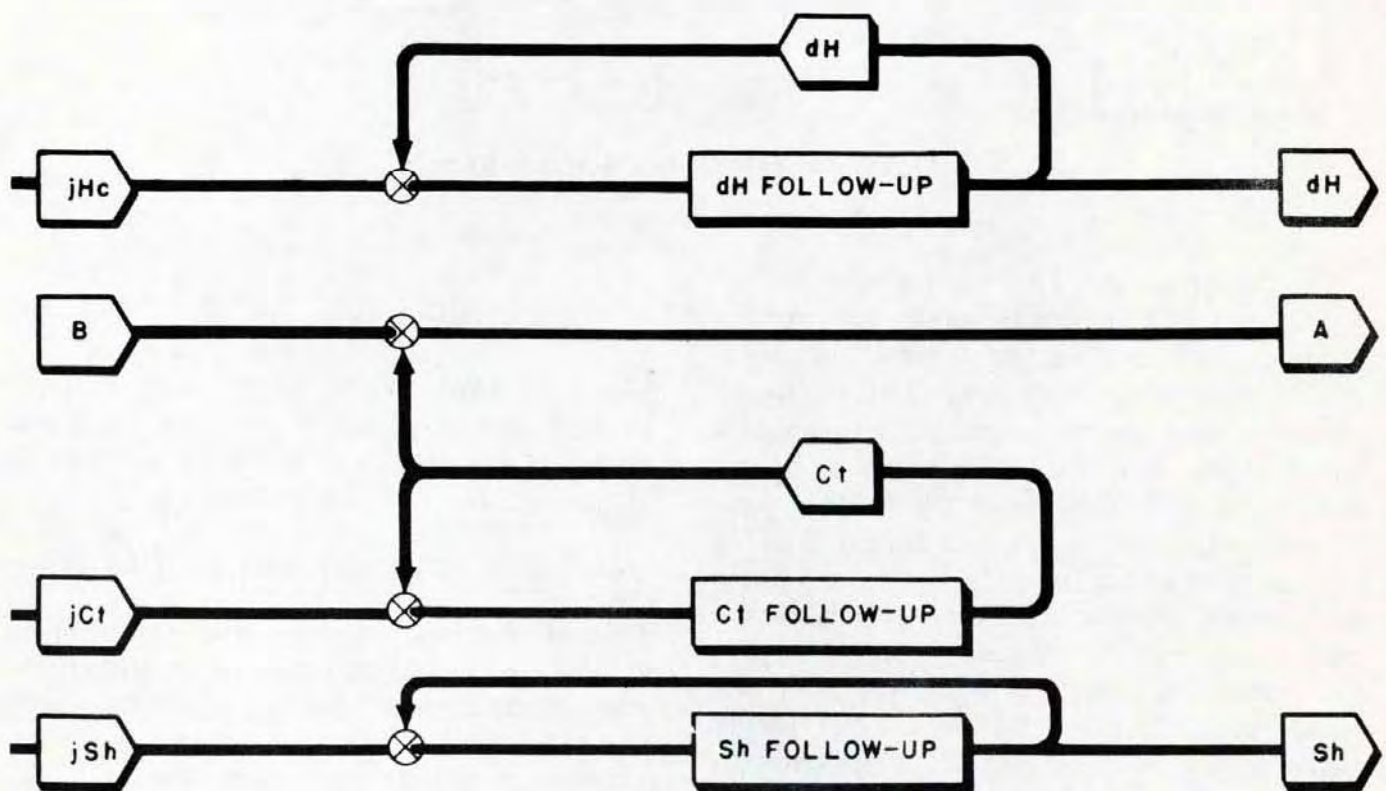

Figure 9. Target Motion Correction Computing Network.
The mechanisms of the rate control group of Computer Mk 1A (see figures 9 and 10) are the same as those in Computer Mk 1, with the following exceptions:
Because of the method employed for computing relative motion rates in the Computer Mk 1A, the range rate correction ($j dR$), the elevation rate correction (jEc), and the bearing rate correction (jBc) cannot be added directly to the respective computed rates of dR , RdE , and $RdBs$. They must be resolved and applied as corrective changes to horizontal target speed (Sh), target angle (A), and rate of climb (dH). These corrective changes are obtained by resolving the rate corrections $j dR$, jEc , and jBc into horizontal and vertical components in the target motion correction computing network. This network consists of the elevation component integrators, the target angle component integrators, and related gearing and follow-ups. (See figure 9.) These basic mechanisms are the same as the corresponding ones in Computer Mk 1.